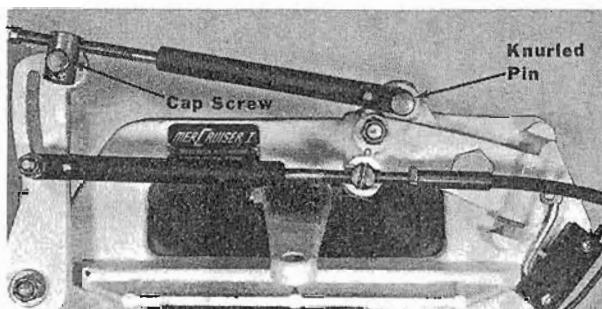

Figure 3. Shift Cable Installed
- d. Fasten brass barrel with cap screw, spacer, washers and nut. Tighten nut securely. (Figure 3)